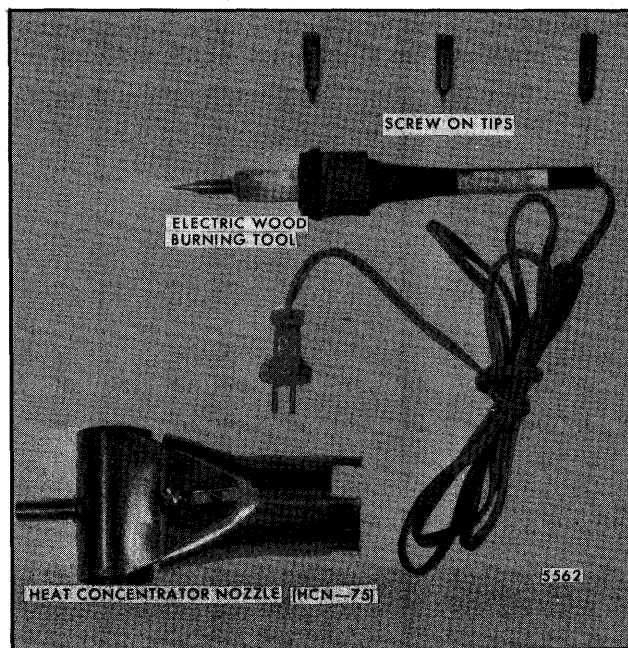

Fig. 8-15-Wood Burning and Heat Concentrator Tool
7. Hot Air Gun and Heat Control Nozzle - used to cure vinyl patching compound, preferably 500 to 700 degrees heat range and aid in removing roof cover (Fig. 8-15).